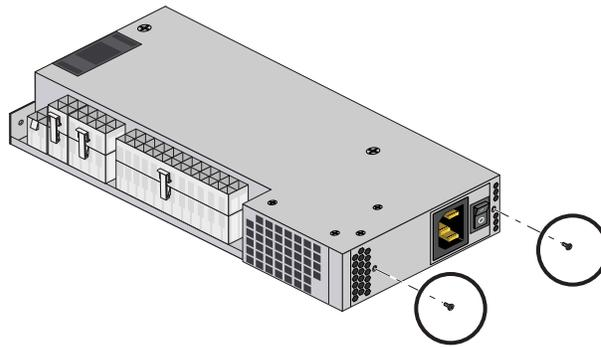

Figure 4-9 450-Watt (Non-redundant) Power Supply Example
If the 450-Watt “non-redundant” power supply fails, you will need to replace it as soon as possible to restore the server to operational status. See Figure 4-9 for an example view that also shows the two rear screw locations on the supply.
4. Undo the two Phillips-head screws on the rear of the chassis that hold the 450-Watt supply rear case in place (shown in Figure 4-9).